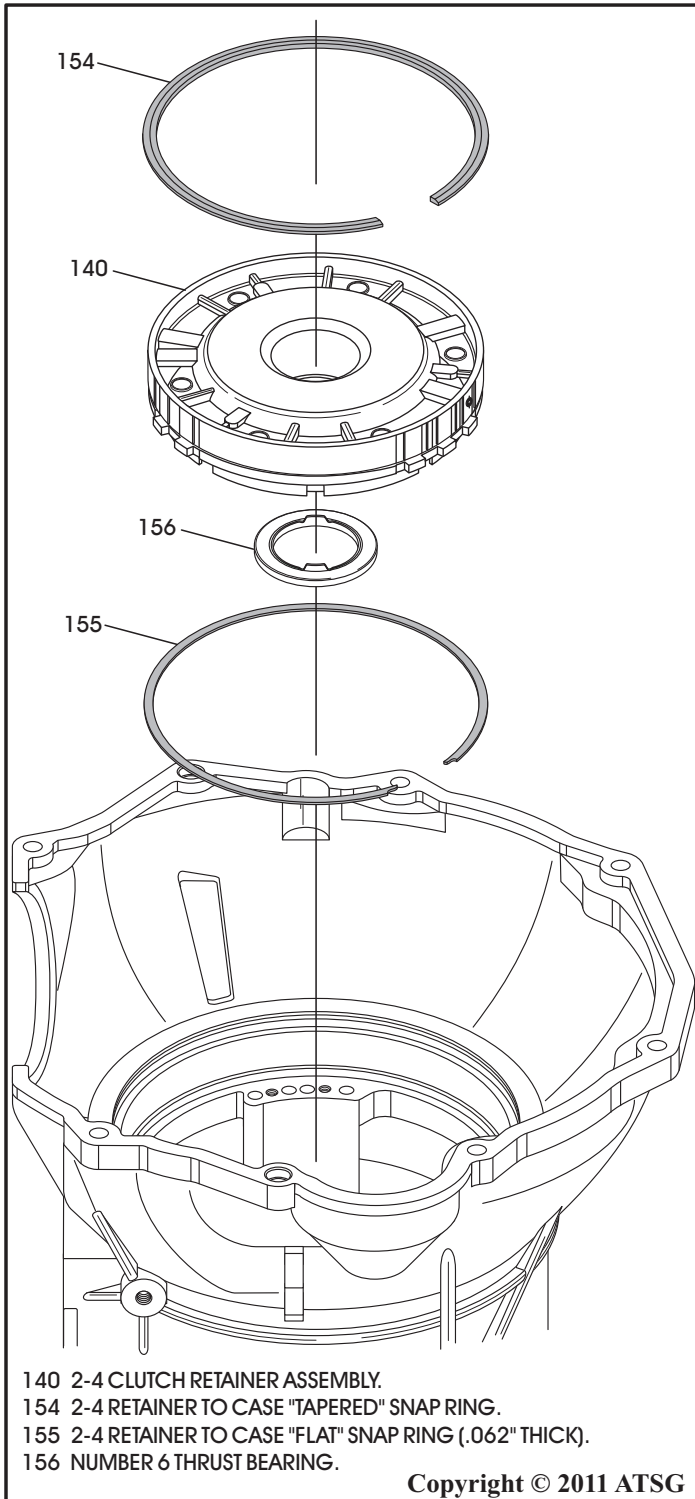

Figure 48
31. Remove the 2-4 clutch retainer front snap ring, which is a *tapered* snap ring, from case as shown in Figure 48.
32. Remove the 2-4 clutch retainer from the case, as shown in Figure 48, and set aside for component rebuild section.
33. Remove the 2-4 clutch retainer rear snap ring, which is a *flat* snap ring from the case, as shown in Figure 48.